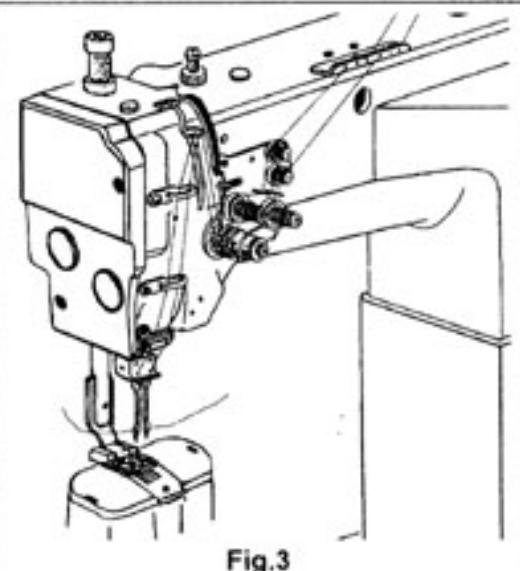

Fig.3
4. Lead the Upper Thread (Fig.3) :
Raise the thread take-up lever to its highest position and lead the upper thread as shown in fig.3.